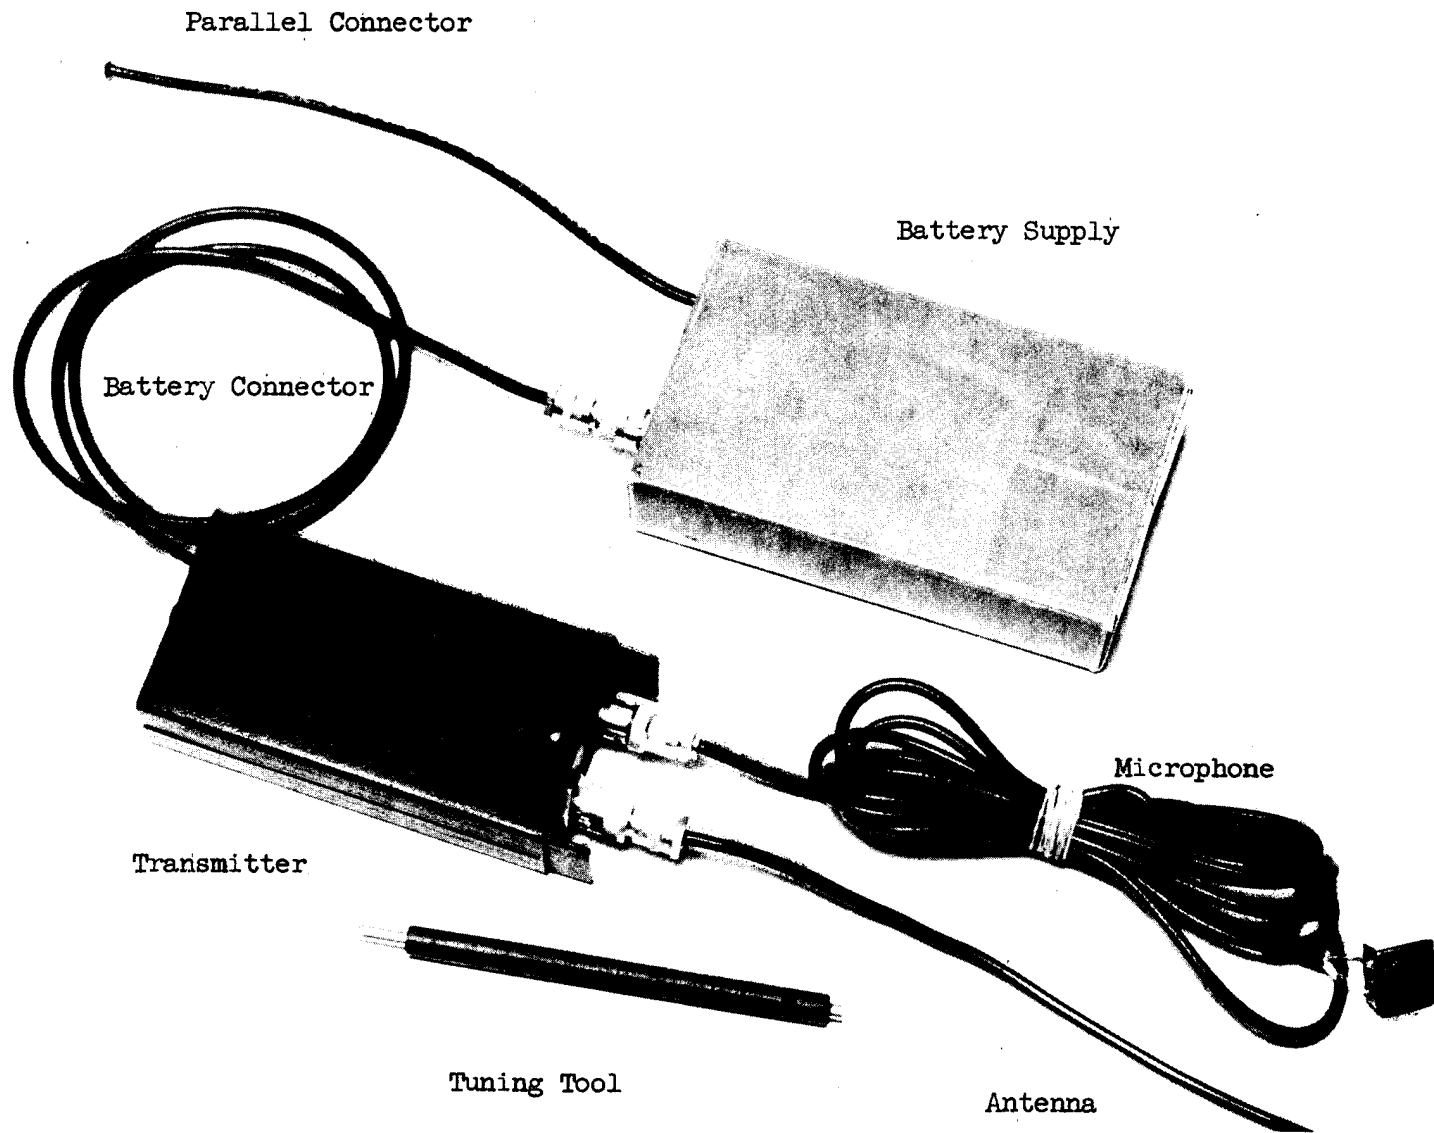

Figure I-1 TRANSMITTER RT-3R
Part I of this instruction manual contains information for the operation and maintenance of the transmitter, Model RT-3R. The equipment is shown in Figure I-1.
2. Connect the battery-pack supplied, to the transmitter, as shown in Figure I-1. If it is desired to operate the transmitter longer than the expected life of the battery pack (360 hours) without changing batteries, two or more packs may be connected in parallel, as shown below.